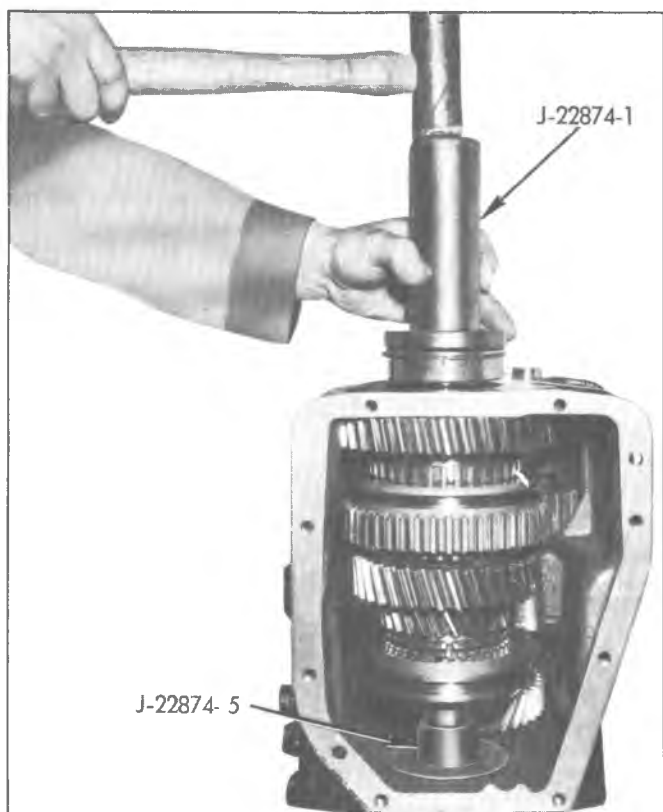

Fig. 23Q-Installing Mainshaft Rear Bearing
3. Install mainshaft assembly into case with rear of shaft protruding out rear bearing hole in case. Position Tool J-22874-5 in clutch gear case opening and engaging front mainshaft (fig. 23Q). Rotate case onto front end.
4. Install snap ring on bearing O.D. and position rear mainshaft bearing on shaft. Using Tool J-22874-1 drive bearing onto shaft and into case (fig. 23Q). Rotate case and remove Tool J-22874-5.